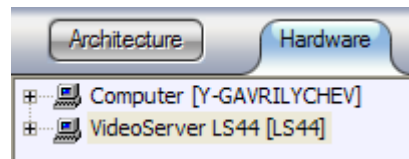

Figure 7.2-8 The connected computer is displayed in the list
3. In the **Hardware** tab click **Reconnect** in the contextual menu of the created computer object. If the settings are correct, the created computer is displayed in the hardware list (Figure 7.2-8).